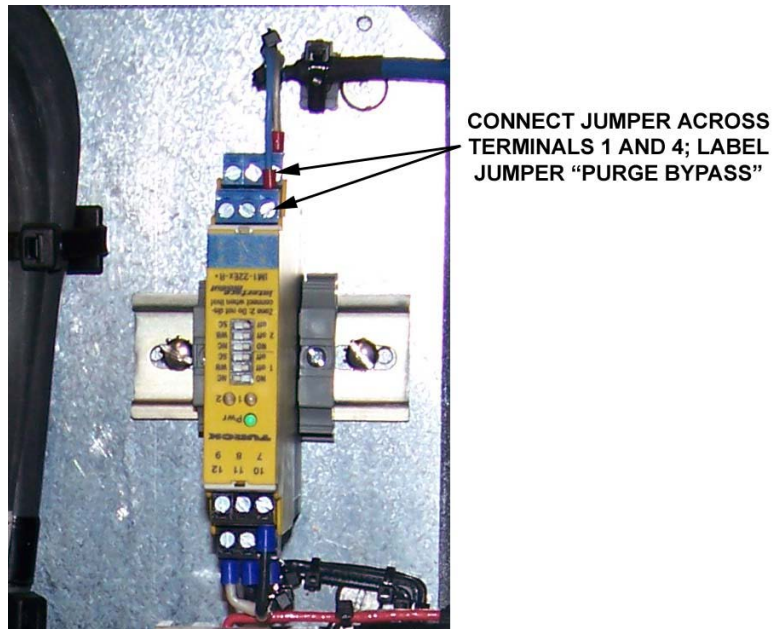

Figure 4-1. Purge System Bypass
3. Locate intrinsic barrier at upper right side of electrical panel, and install a jumper across terminals 1 and 4 to disable the purge system (Figure 4-1).